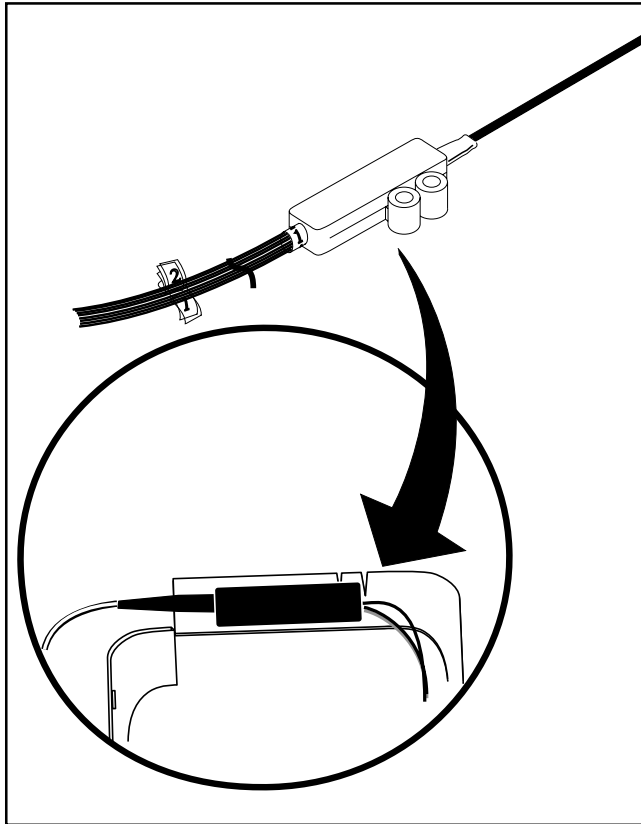

Figure 11
7.3 Strain-relieve ribbon or loose-tube cables into 12-fiber modules using Fanout Assembly (Figure 11).